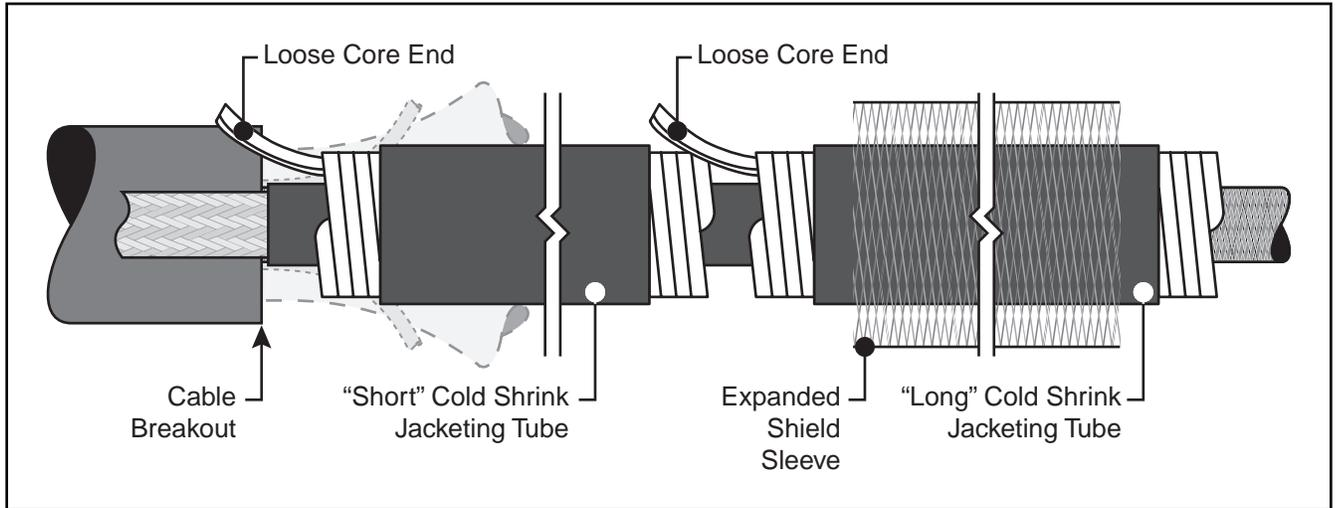

Figure 10
- 5.3 Slide a “short” cold shrink jacketing tube (packaged in 3M™ Loadbreak Kit 5811-B) over each phase conductor, with the loose core end leading (facing cable breakout). Temporarily park them over the 3 previously installed jacketing tubes. (Figure 10.)
- 5.4 Slide 3 remaining “long” Cold Shrink Jacketing Tubes over the phase conductors, with loose core ends leading (facing cable breakout). Temporarily park them over 3 previously installed Jacketing Tubes. (Figure 10.)
- 5.5 Expand shield sleeves and slide 1 onto each phase conductor. Temporarily park sleeves over cold shrink jacketing tubes. (Figure 10.)